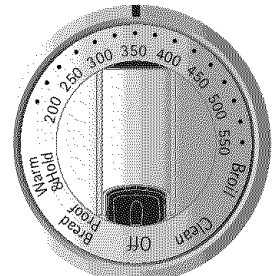

Figure 2
3. Turn the temperature control knob to 350 (Figure 2).